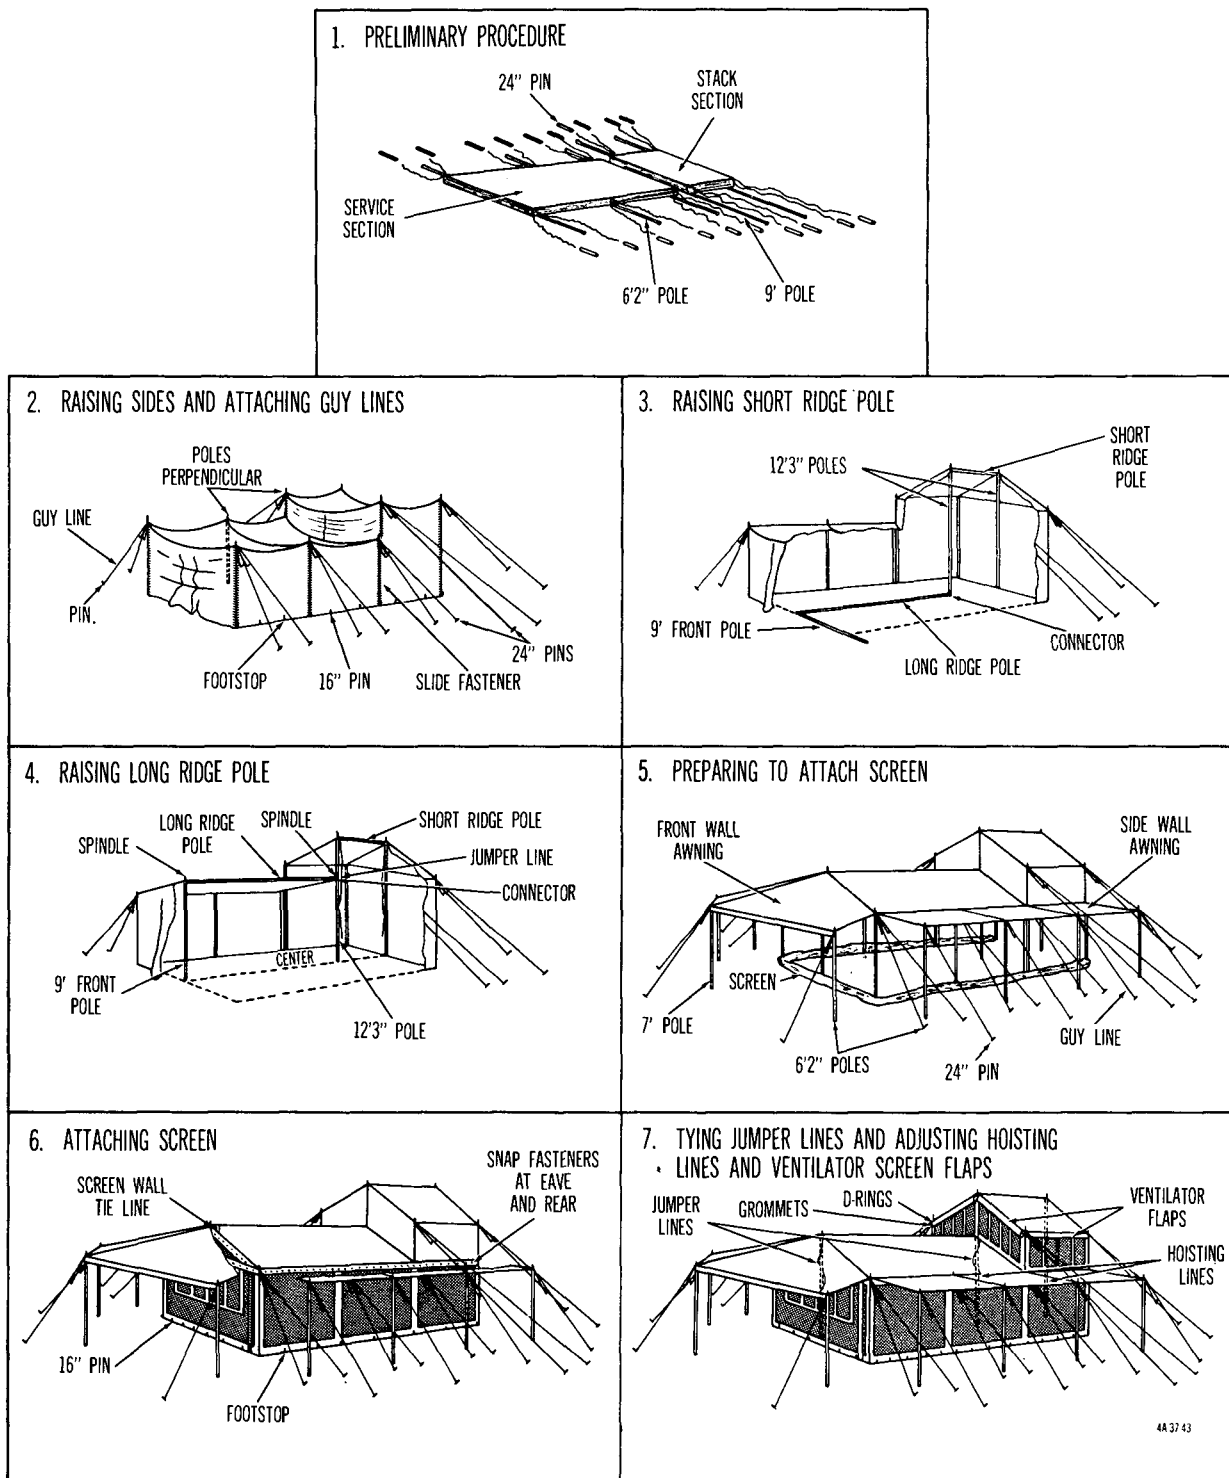

Figure 41. Steps in pitching tent, kitchen, flyproof, M-1948.
(1) *Preliminary procedure* (1, fig 41). Spread tent out according to ground plan with the four 9-foot and the six 6-foot 2-inch side poles and twenty 24-inch pins in proper position.
(2) *Raising sides and attaching guy lines* (2, fig 41).
(3) *Raising short ridge pole* (3, fig 41). Insert spindles of the two 12-foot 3-inch upright center poles through holes at ends of short ridge pole, raise poles, and insert spindles of the 12-foot 3-inch upright center poles into grommets in stack ridge. Make sure that the 12-foot 3-inch upright poles are at the front and rear center of stack section 6 feet from each side, and that they are perpendicular.
(4) *Raising long ridge pole* (4, fig 41).
(5) *Preparing to attach screen (5, fig 41).*
(6) *Attaching screen (6, fig 41).*
(7) *Tying jumper lines and adjusting hoisting lines and ventilator screen flaps (7, fig 41).*